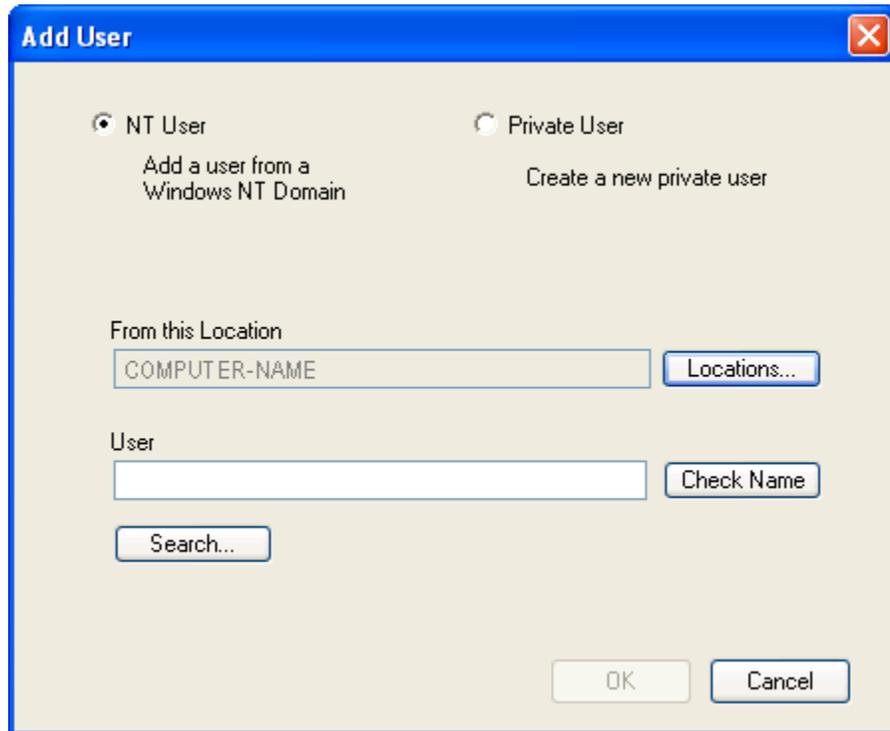

Figure 45 - Add User Window (NT)
2. The **Add User** window (Figure 45) appears. The **NT User** option button is selected by default. This will allow the addition of a user from a Windows NT Domain.
2. The **Add User** window (Figure 45) appears.